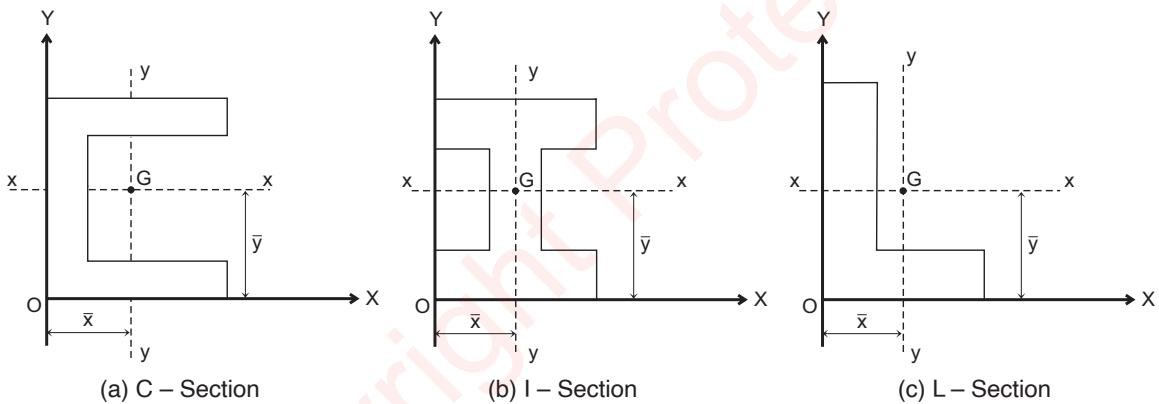

Fig. 4.3: Axis of symmetry
- (b) **C- Section (Channel)** [fig. 4.3(a)] Section is symmetrical about x - x axis. So \bar{y} is directly available and \bar{x} is to be calculated.
- (c) **I-Section** [fig. 4.3(b)] Section is symmetrical about both x - x and y - y axis. So \bar{x} and \bar{y} both are directly available.
- (d) **L-Section (Angle Section)** [fig. 4.3(c)] Section is not symmetrical about any axis. So \bar{x} and \bar{y} both are required to be calculated.